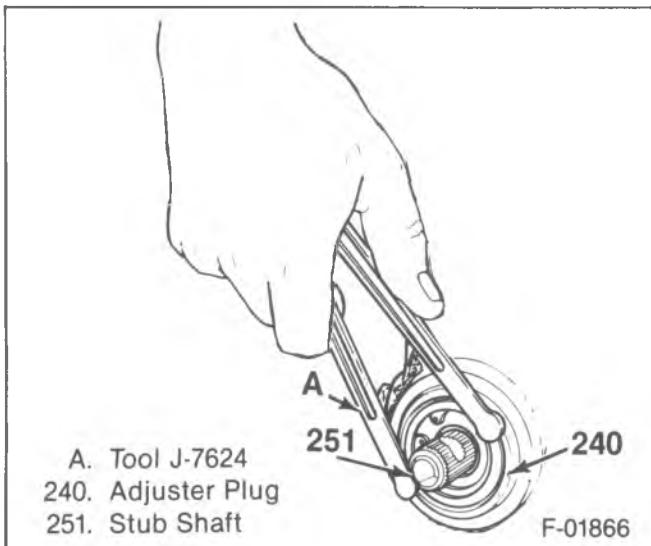
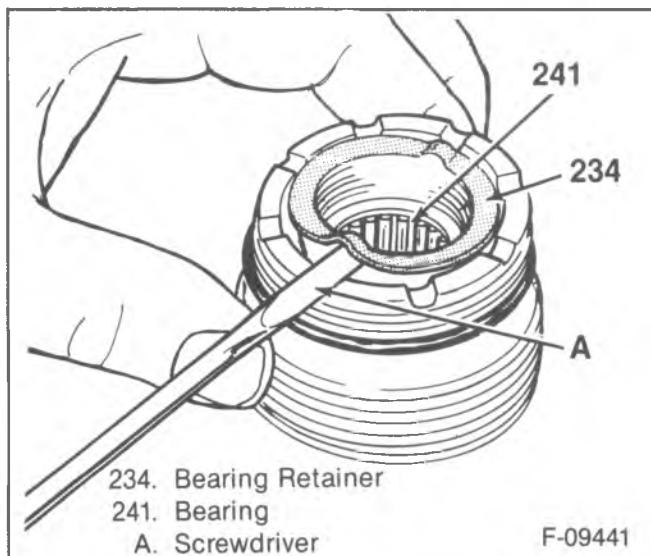

Figure 6—Removing the Adjuster Plug
Figure 7—Removing the Bearing Retainer
- Hold the tool against the worm and turn the stub shaft to the left. The rack piston (214) will be forced onto the tool.
11. Adjuster nut (245).
12. Adjuster plug (240) using J-7624 (figure 6).
- Retaining ring (244) using J-4245.
- Washer (243), seal (242) and bearing (241).
- Bearing retainer (234). Pry the retainer with a screwdriver at the raised area (figure 7).